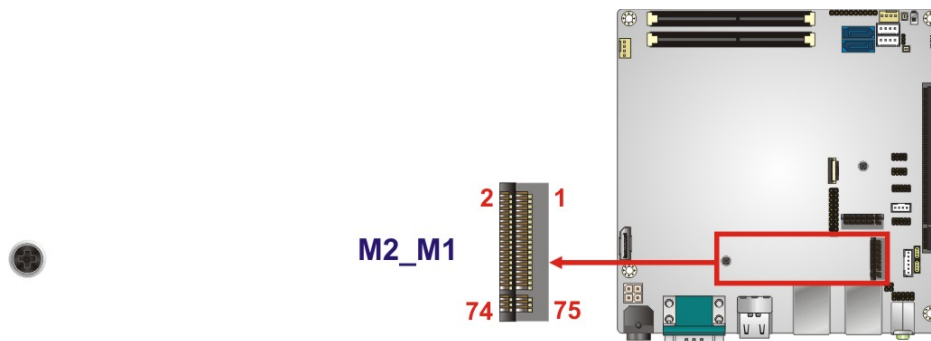

Figure 3-19: M.2 M-key Slot Location
- CN Location:** See **Figure 3-19**